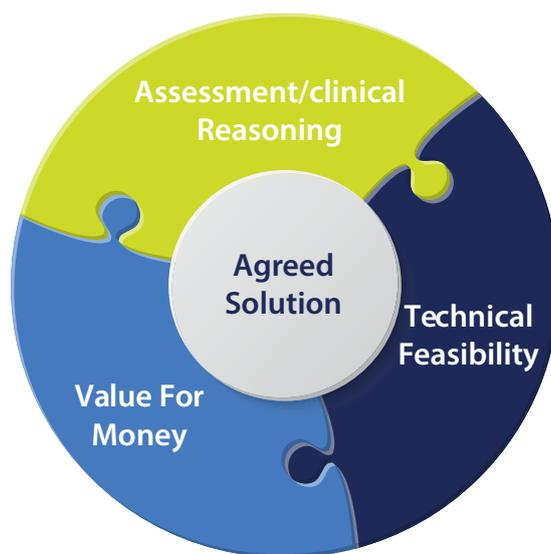

Figure 4: Feasibility of adaptation works
- Value for money (Occupational Therapy/Housing Provider) (See figure 4)